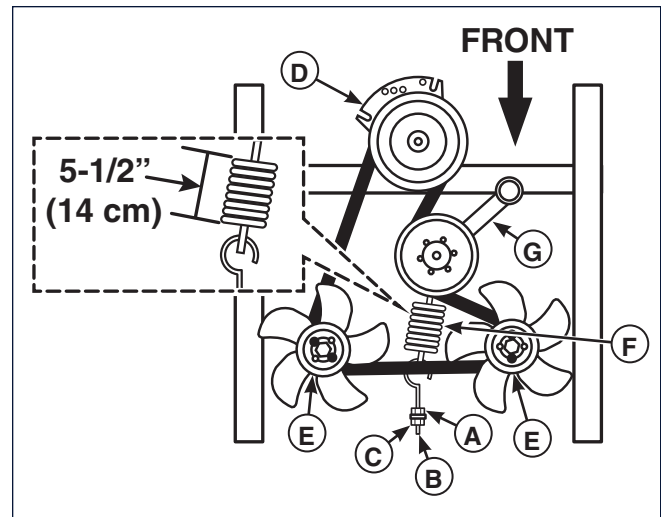

Figure 40. Hydraulic Drive Belt Replacement
4. Loosen the jam nut (A, Figure 40) on the spring anchor eyebolt (B).
5. Loosen the nut (C) on the spring anchor eyebolt to release the majority of the belt tension. Use caution to remove the nut to completely release the tension.
6. Remove the old belt and replace it with a new one. Make sure the V-side of the belt runs in the grooves of the crankshaft pulley (D) and the transaxle pulleys (E).
7. Reinstall the spring anchor eyebolt into the anchor tab and loosely fasten the nut. Tighten the nut until the spring (F) achieves a measurement of 5-1/2" (14 cm) from coil-to-coil.